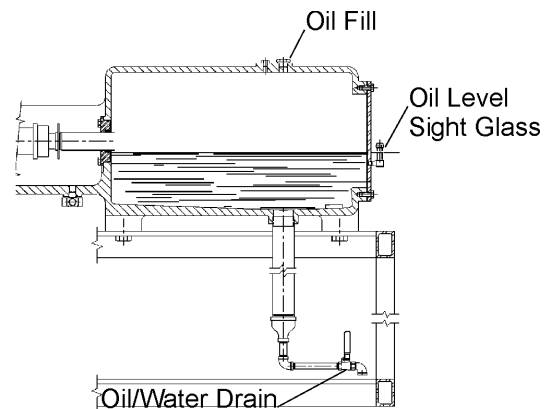

Figure 26 Oil Drain Location
See Figure 26.
1. Drain oil when the machine is hot and the machine has stopped. See Figure 26.